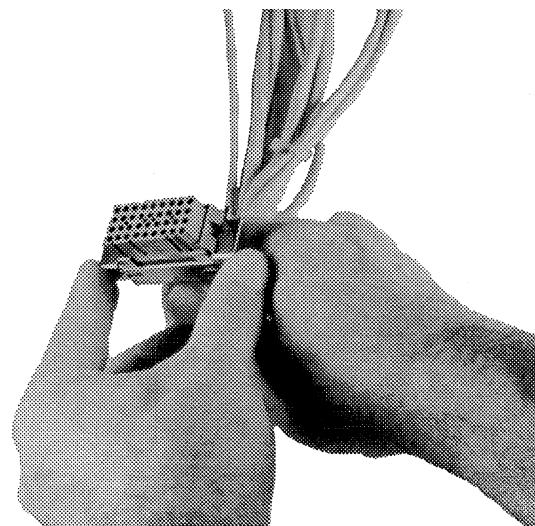

Figure 9 36-pin connector adapter bracket.
2. Slide the adapter bracket onto the 36 - pin connector, as shown in Figure 9. Be sure that the beveled corners of the trip unit connector are facing toward the right side, the adapter bracket slides are in place behind the notches on either side of the connector body, and the connector's tabs align with the notches on the bottom of the adapter bracket.